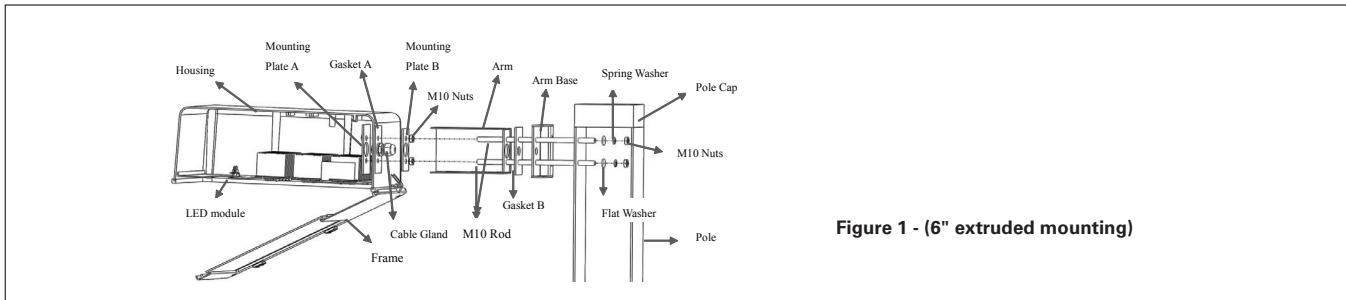

Figure 1 - (6" extruded mounting)
7. Mounted the whole fixture to the Pole (Figure 1)